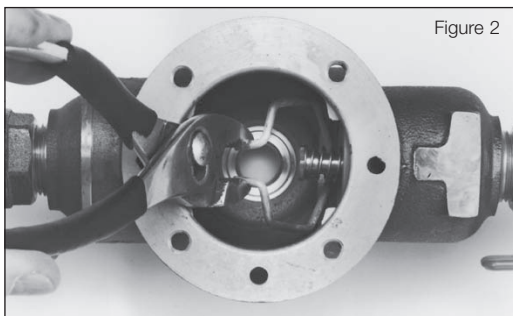
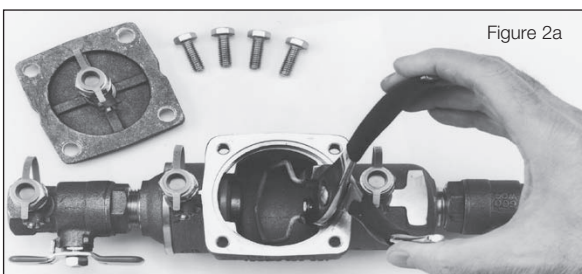

Figure 2
Figure 2a
3. After taking the cover off either check valve can be removed by simply using pliers to grasp the spring clip (RP Figure 2, DC Figure 2a).